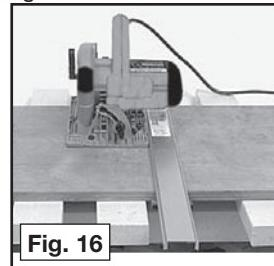

Fig. 16
**⚠WARNING** Stay alert and maintain a firm grip on the saw. Release the switch immediately if the blade binds or the saw stalls. Keep your blade sharp. Support the panels (Fig. 16). Use a fence or a straight edge guide when ripping. DO NOT force the tool. DO NOT remove the saw from the workpiece while the blade is moving.